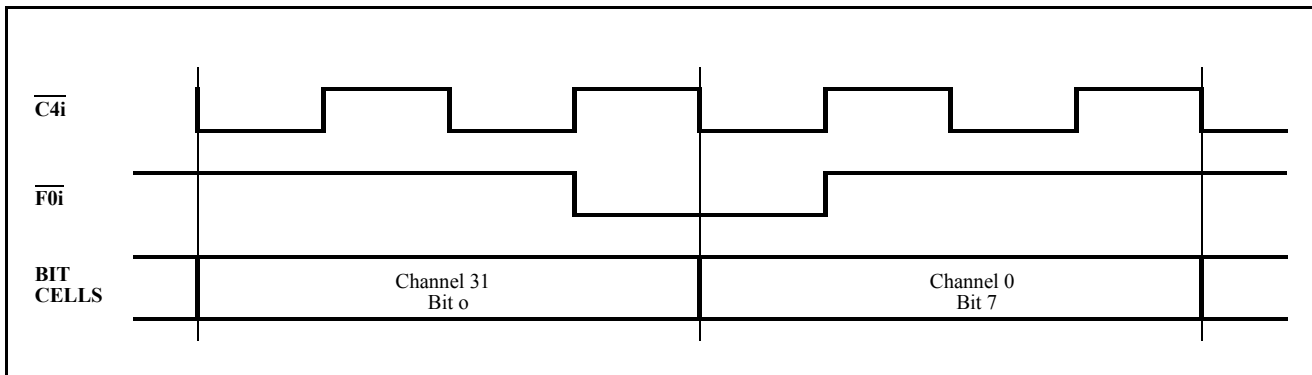

Figure 12 - Frame Alignment
**AC Electrical Characteristics† - Clock Timing (Figures 12 and 13)**